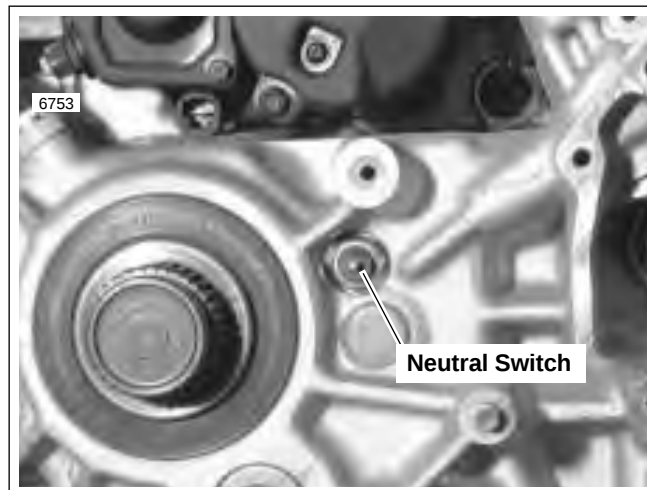

Figure 7-52. Neutral Indicator Switch
See Figure 7-52. The neutral indicator switch is threaded into the transmission portion of the right crankcase half; it is immediately forward of the main drive gear shaft. The sprocket cover must be removed to test the switch. If switch requires replacement, secondary drive belt and transmission sprocket must also be removed; there is not enough clearance to allow the removal of the switch without first removing the transmission sprocket.
3. See Figure 7-52. Disconnect wire lead from neutral indicator switch.
4. See Figure 7-52. Place transmission in first gear. Remove two socket head screws (7) and lockplate (6).